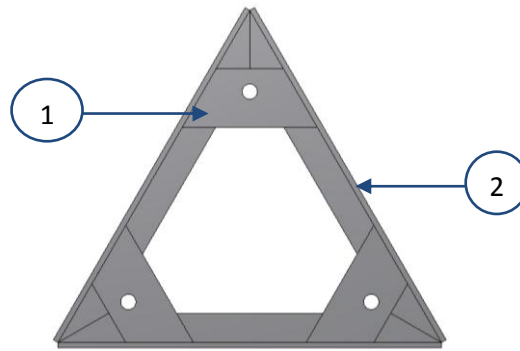

Figure 1: Alumast Fixed Base
1. Assemble the leg sections with the yellow leg (colour coded at the top end) to the left of the red leg and the blue leg to the right, ensuring the diagonals are fitted on the outside starting at the base (plain end), see Figure 1. Attach in position with steps, securing loosely using M6 bolts, nuts and washers. Tighten all bolts securely.